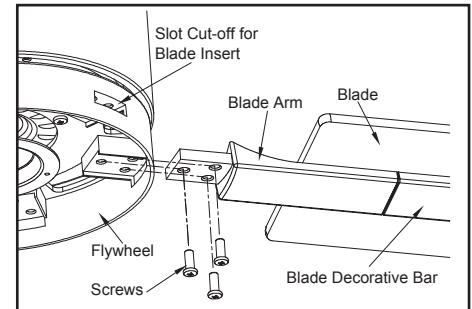

Figure 12
2. Insert a blade assembly to the slot cut-off in the center flywheel, align the three screw holes in the blade assembly with the screw holes in the flywheel and secure with the screws provided. Repeat for the remaining blade assemblies. (Figure 12)